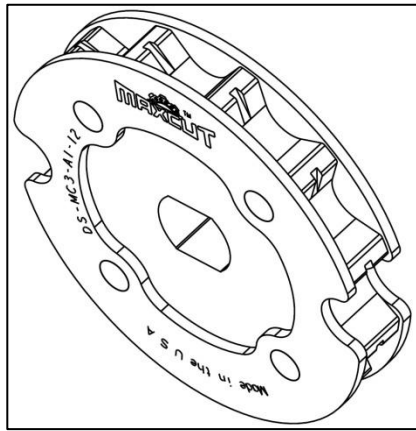

FIGURE 2
- 3.3.4. When installing a used drive sprocket, inspect it for wear marks on the teeth. DO NOT use drive sprockets with wear marks deeper than 1/32" (approximately half way through the drive teeth) as shown in Figure 2. A drive sprocket worn beyond this guideline increases the risk of damaging the chain chassis.